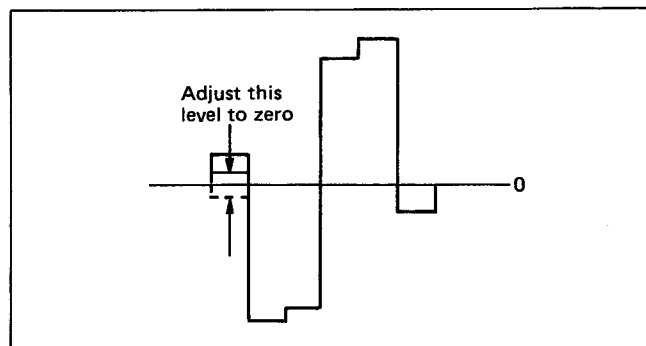

Fig. 28
- Adjust PAL APC ADJ. (R619) to achieve waveform shown in Fig. 28.